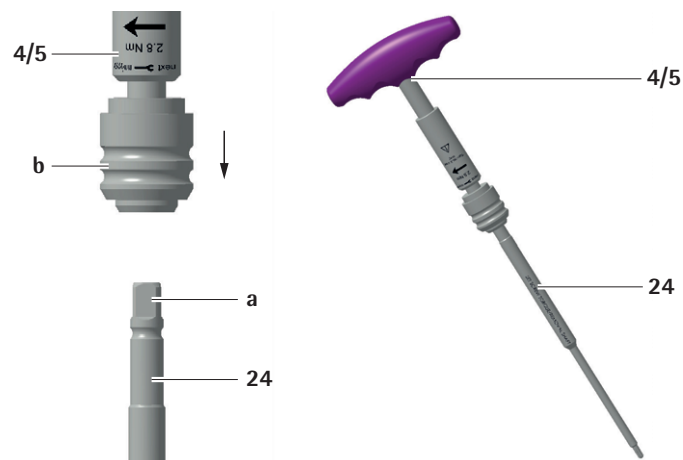

Fig. 38
- ▶ Assemble the torque wrench by attaching a torque limiting handle 4/5 (SZ005R/SZ006R) to the set screw torque shaft 24 (SZ070R), see Fig. 38: